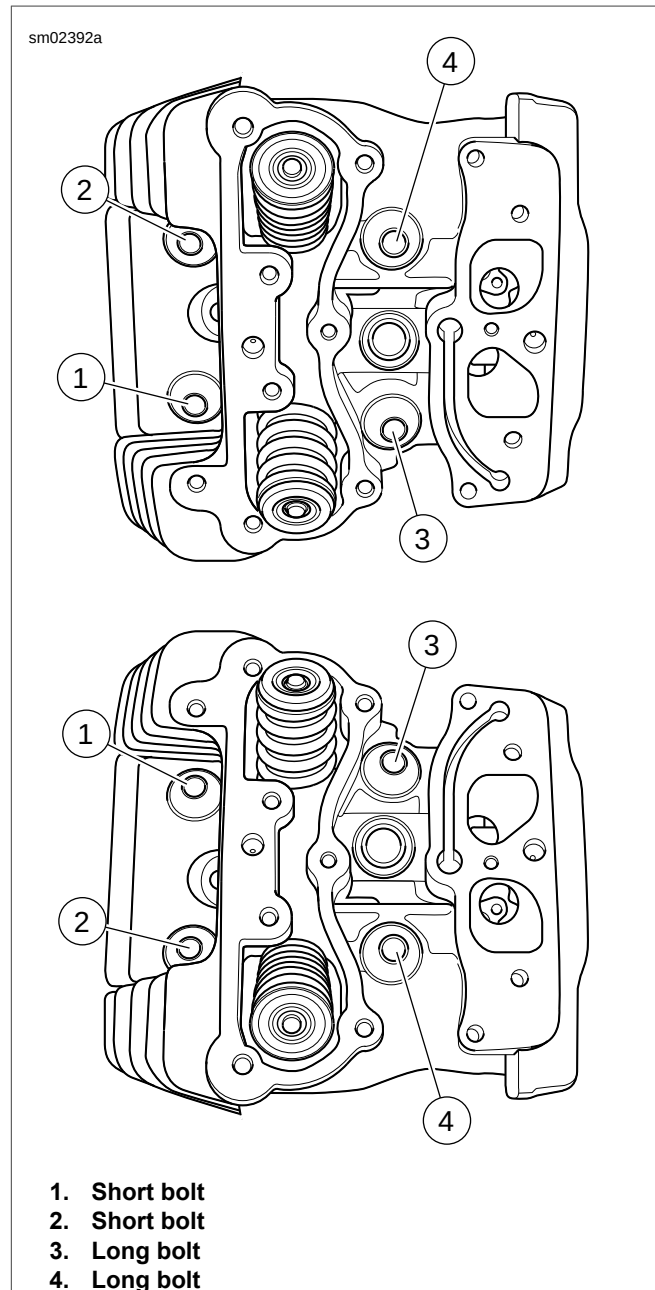

Figure 3-79. Cylinder Head Bolt Torque Sequence (Top: Front Cylinder Head, Bottom: Rear Cylinder Head)
4. See Figure 3-79. Loosely install the cylinder head bolts. Place two short bolts on the left side of the engine and two long bolts on the right.
- a. See Figure 3-79. Following sequence shown, turn each cylinder head bolt until finger tight.